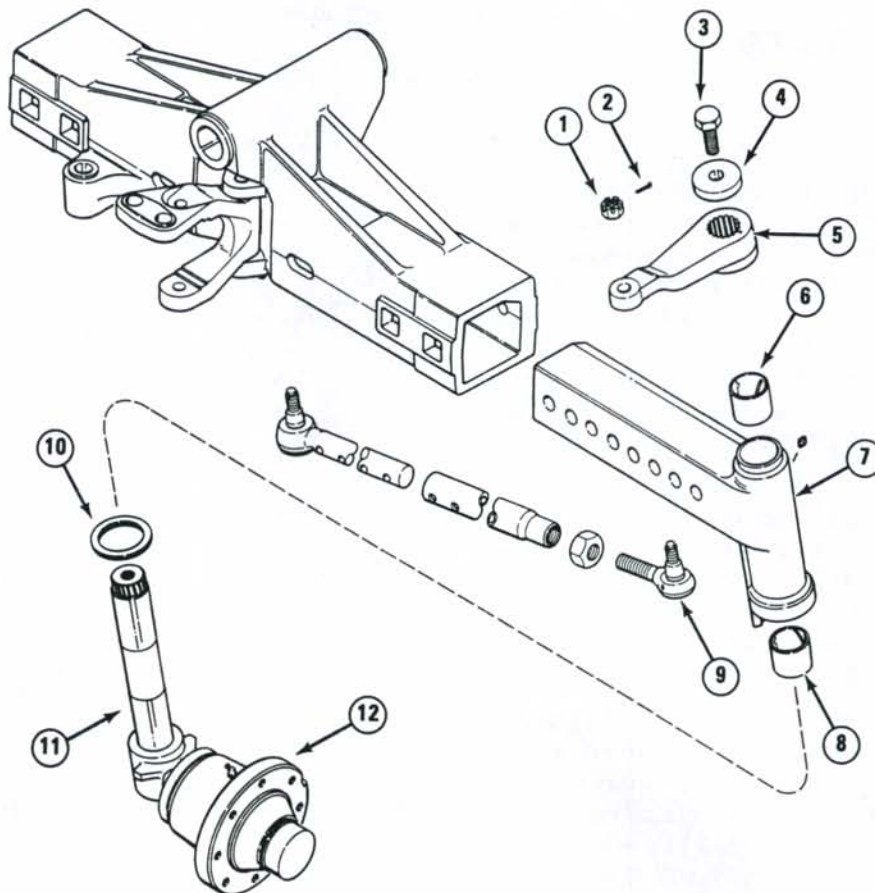

Fig. 2—Exploded view showing axle extension, spindle and bushings used on all two-wheel drive tractors.
2. **R&R SPINDLES.** To remove either spindle, lift and support front of tractor and remove wheel. Disconnect tie rod ball joint (9—Fig. 2) from steering arm (5). Remove cap screw (3) and washer (4). If not marked, install alignment punch marks on steering arm and spindle. Remove steering arm (5) and lower spindle assembly (11) from axle extension (7). Remove thrust bearing (10) from spindle. Inspect spindle bushings (6 and 8) in axle extension and renew as necessary.
3. Removal and disassembly of the tie rods is obvious after examination of the unit and reference to Fig. 2. Tighten tie rod end slotted nuts to a torque of 100 ft.-lbs. (136 N·m) and install new cotter pins. Tighten clamp bolts to a torque of 40-50 ft.-lbs (55-70 N·m).